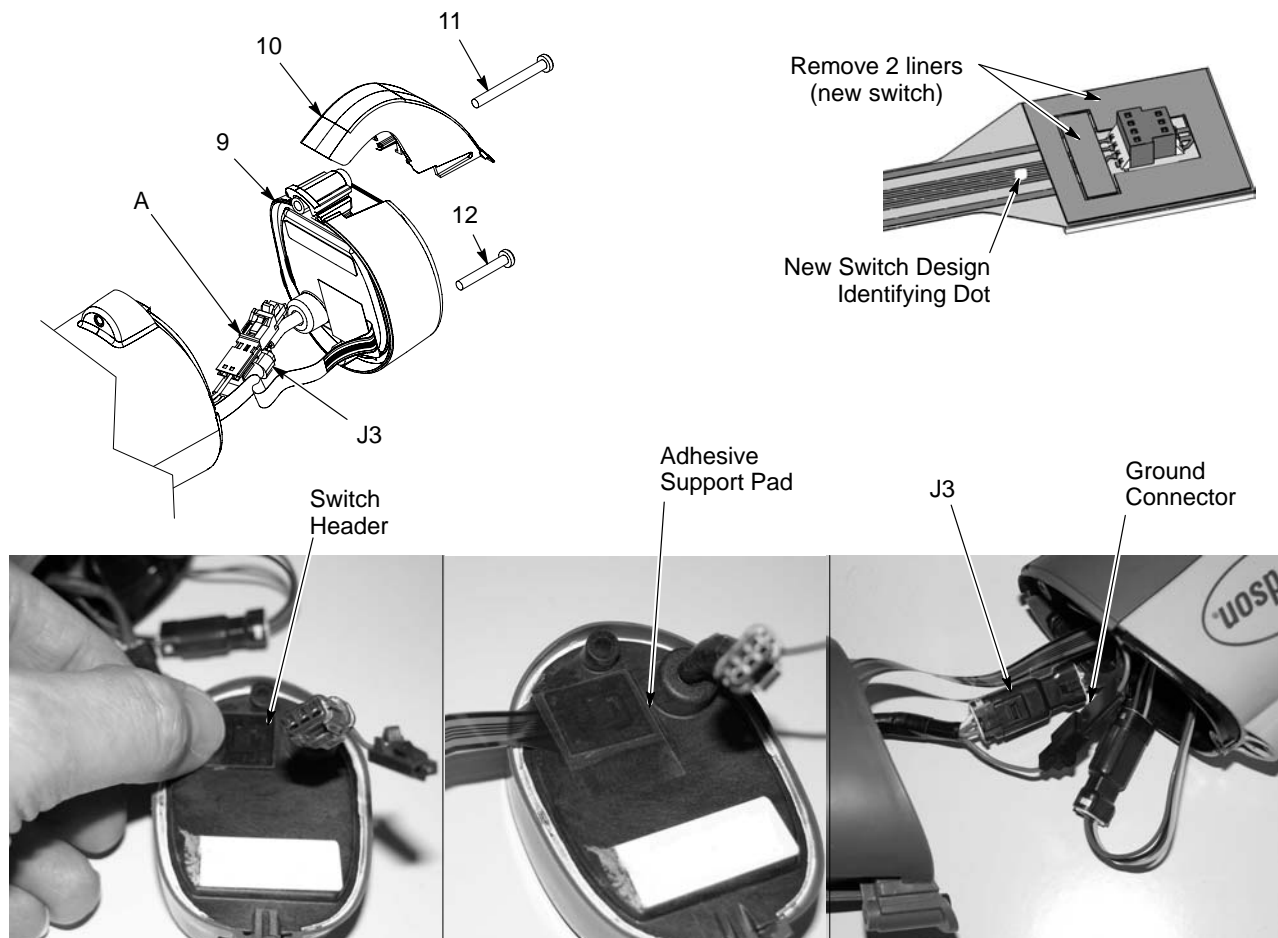

Figure 5-1 Display Module Replacement
1. See Figures 5-1, 5-3, and 5-3. Unscrew the top (M3 x 30) screw (11) holding the hook (10) and display module (9) onto the gun body.
3. Unscrew the bottom (M3 x 20) screw (12) (display module to gun).
5. Disconnect the display module ground connector (A). This ground cable has been added to provide a separate ground for the display module. It is connected to the barbed fitting in the handle base. Older units will not have it. Refer to *Parts* for the new display module kit.
1. On the display module (9), carefully clean the trigger switch header mounting surface and surrounding area with isopropyl alcohol. Allow the surface to dry completely before proceeding.
2. If you are installing a new trigger switch, remove the two liners from the connector side of the trigger switch header as shown in Figure 5-1.
1. See Figure 5-1. Remove the display module as described in *Display Module Replacement*.